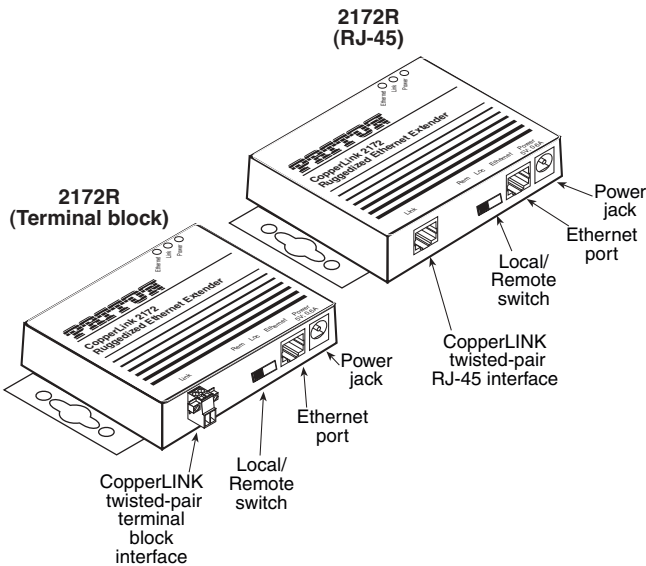

Figure 2. Model 2172R standalone rear panel
**Note** See Figure 2 for the standalone unit’s rear panel arrangements.